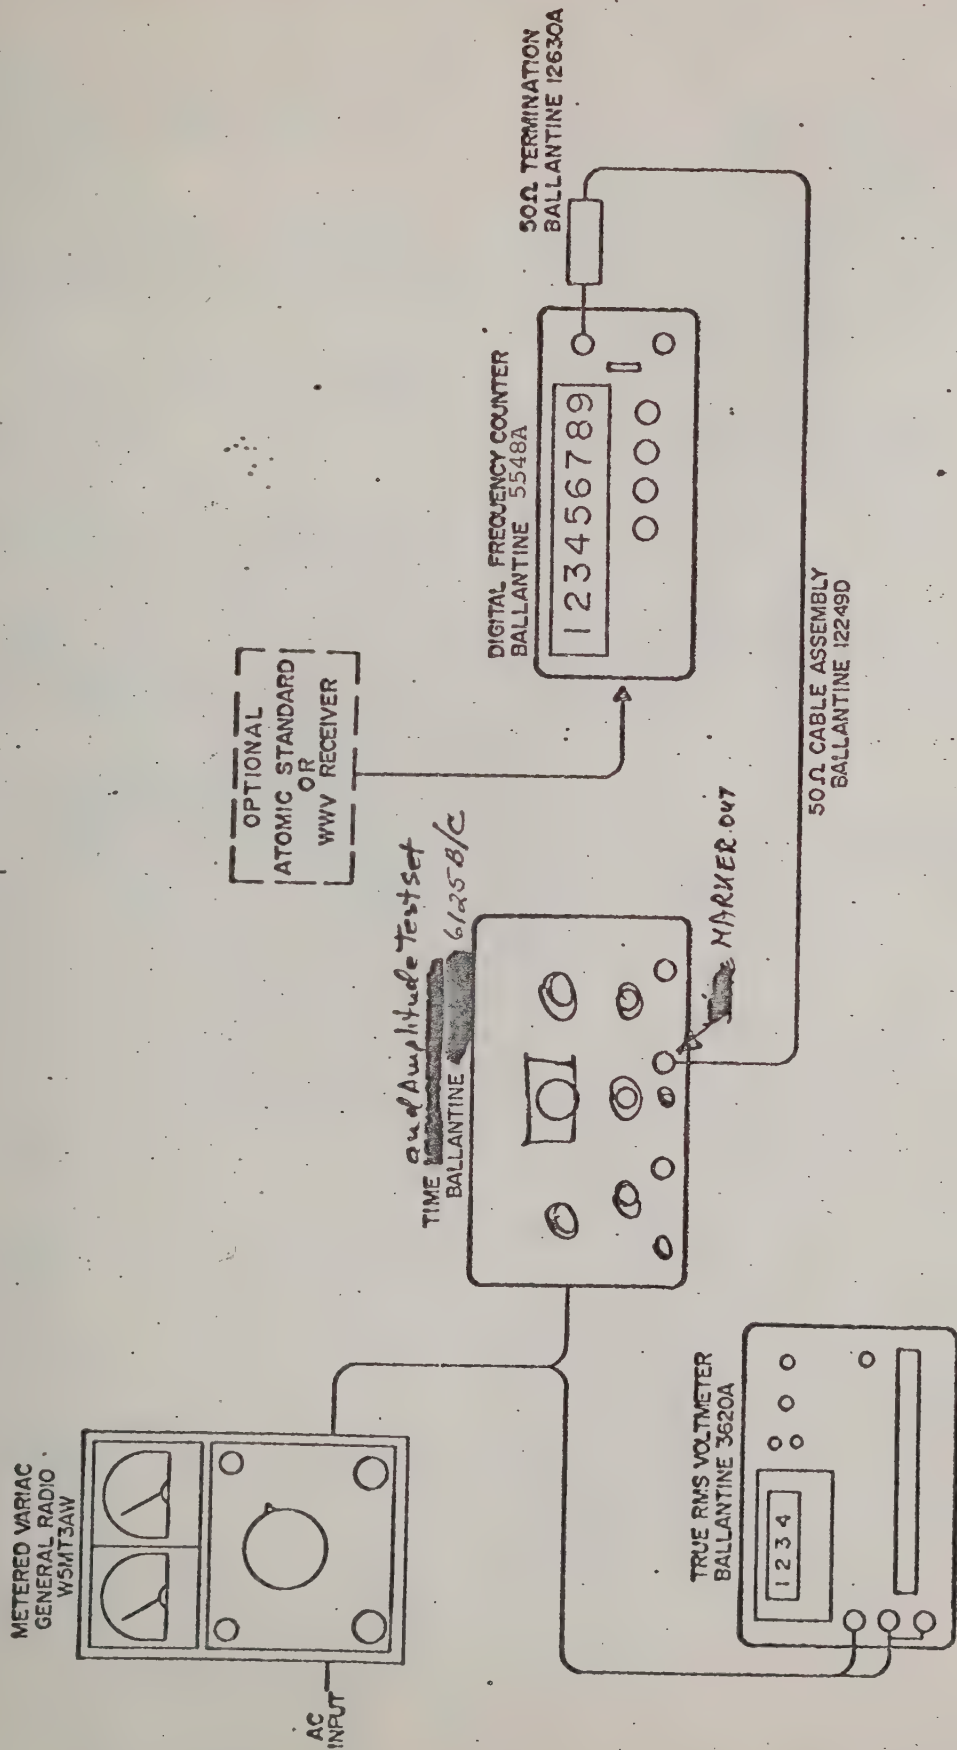

Figure 5-2. Clock Frequency Check. Bench Test Setup.
a. Interconnect the generator and the test equipment as shown in Figure 5-2.
- b. Connect a frequency counter to the MARKER OUT BNC as shown in Figure 5-2. Observe a frequency of 100,000 Hz (+50Hz) displayed on the counter.